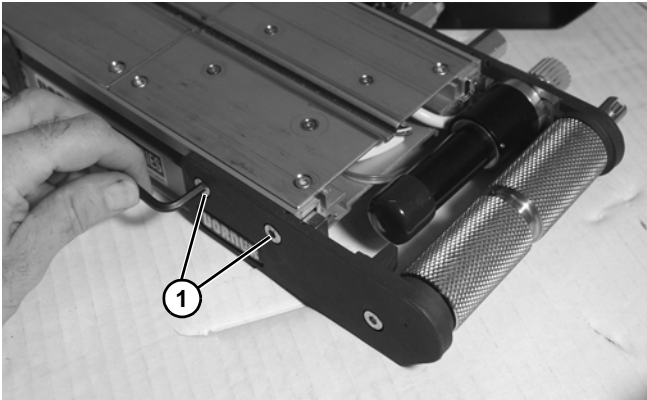

Figure 53
9. Remove two head plate fastening screws (**Figure 53, item 1**) from opposite side of conveyor.